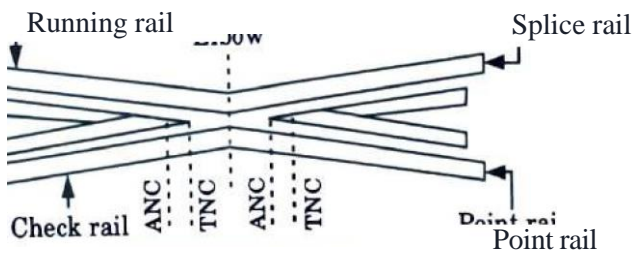

Fig. 2.24.5. Double crossing.
- v. When the angle becomes 90°, it is known as the square crossing as shown in Fig. 2.24.5 and it should be avoided as far as possible because there is rapid wear of the crossings and damage to the rolling stock on account of the heavy impact.